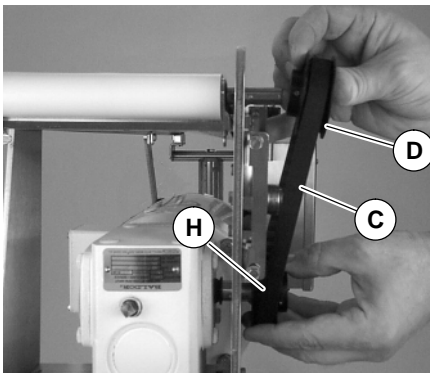

Figure 6
4. Wrap timing belt (C of Figure 6) around driven pulley (D) and drive pulley (H). Attach driven pulley (D) to conveyor shaft.